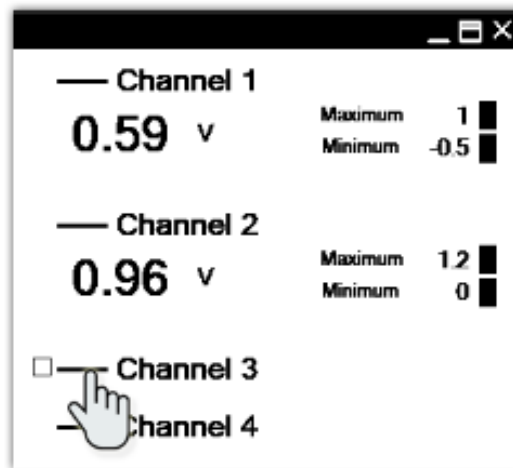

Figure 3: Check-box appeared with hovering mouse.
PhysLogger supports up to four (4) channels. One of the channels could be on I^2C protocol. All have similar controls. They all have very similar controls. To activate any channel, hover the mouse over the **line** before the channel label. A check-box will appear (see Figure 3). Click on that check-box to activate the corresponding channel. The channels can be accessed by hovering the mouse over the live-plot of that channel and right clicking on it. The following options for each channel will be exposed upon right clicking:
Channels are labeled as **Channel 1**, **Channel 2 ...** by default. To relabel any channel name, click on it's label (see Figure 3) and type in any desired name.